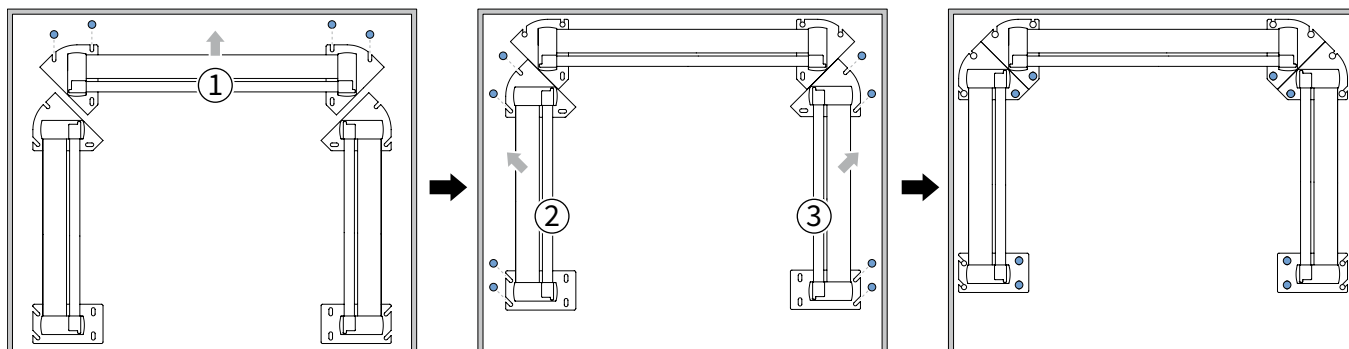

Figure 8.1 Order of mounting windscreens
See figure 8.1. First mount windscreen ①. Then windscreen ② and ③.